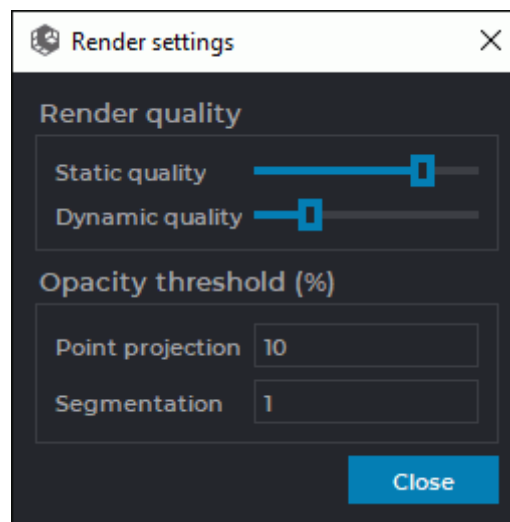

Figure 3.10: Render settings dialog box
1. Click on the **Render settings**  button on the toolbar. The dialog shown in Fig. 3.10 will be displayed.